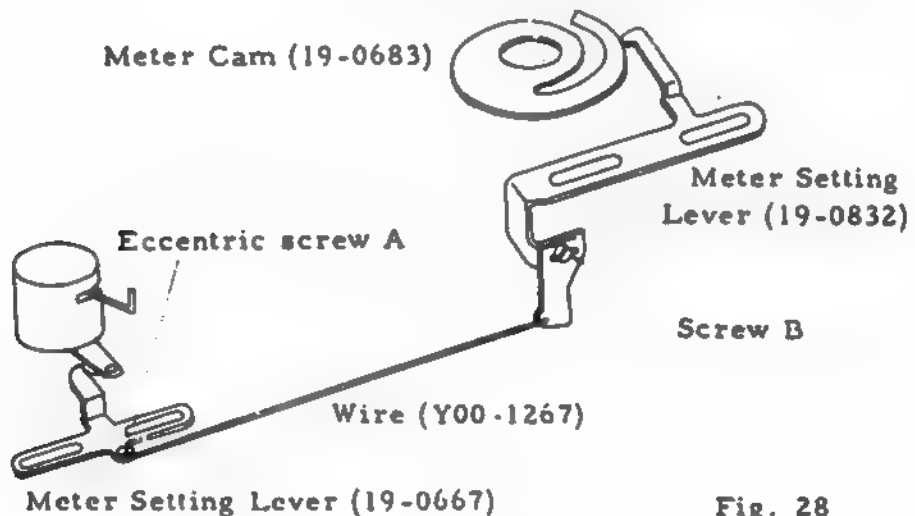

Fig. 28
- 2) Set the eccentric screw A (Fig. 28) to its position.
- 3) At ASA 100 1/125 sec, the inscribed line of Meter Holder (13-9781) coincides with that of Meter Cover. In this case, the lever of Meter becomes perpendicular. See Fig. 29. Make adjustment by turning the screw B. See Fig. 28.